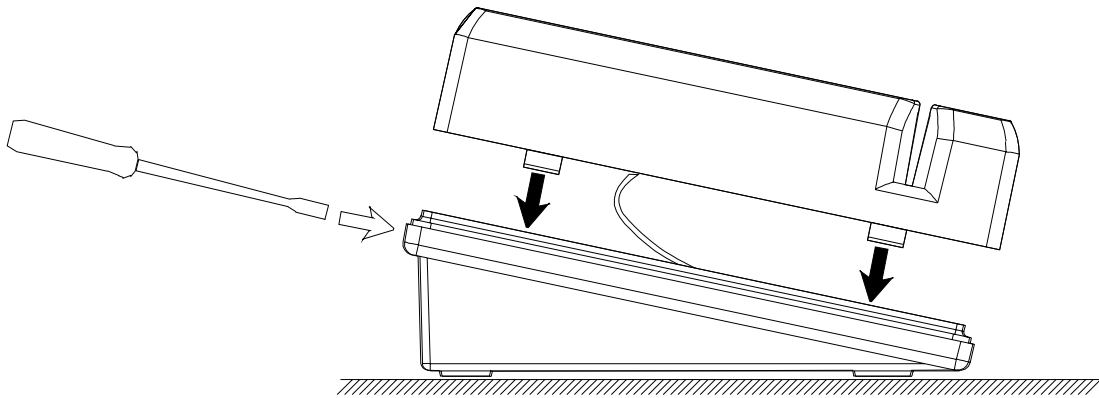

Figure 18. Closing the Terminal (Turnstile-Mounted Assembly)
2. Insert the upper shell as indicated in Figure 18.